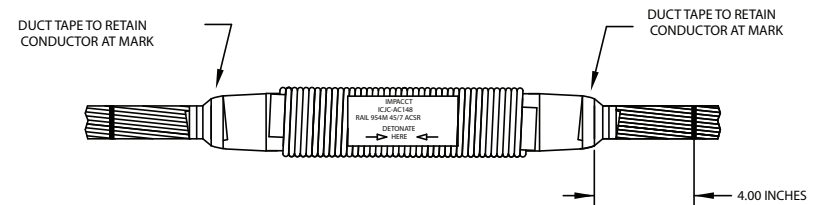

Fig. 3
3. The conductors must remain at "Mark" prior to detonation. To maintain a tight assembly: use "Duct Tape" to secure. Wrap onto end of barrel, then conductor, to hold conductor tight within assembly. See Fig. 3. Measure from end of Jumper Connector to 4-inch "Mark" to ensure the conductor has not pulled out.